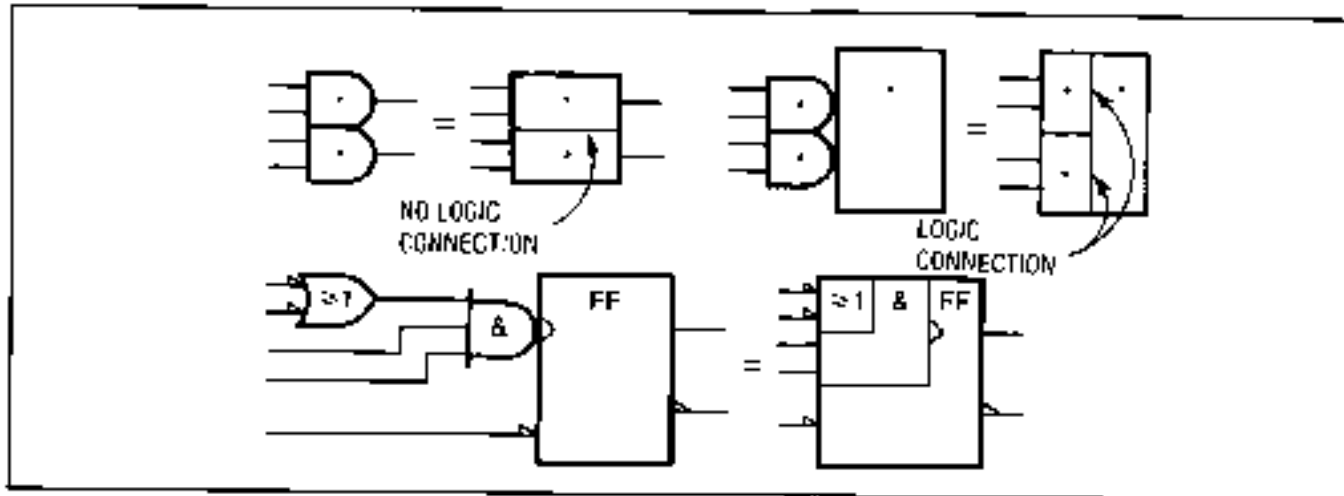

Figure 8-3. Contiguous Blocks
**Contiguous Blocks.** Two symbols may share a common boundary, parallel or perpendicular to the direction of the signal flow. Note that in the examples shown in Figure 8-3, there is generally no logic connection across a horizontal line, but there is always an implied logic connection across a vertical line. Notable exceptions to this rule are the horizontal lines beneath control blocks and between sections of shift registers and counters (dividers).